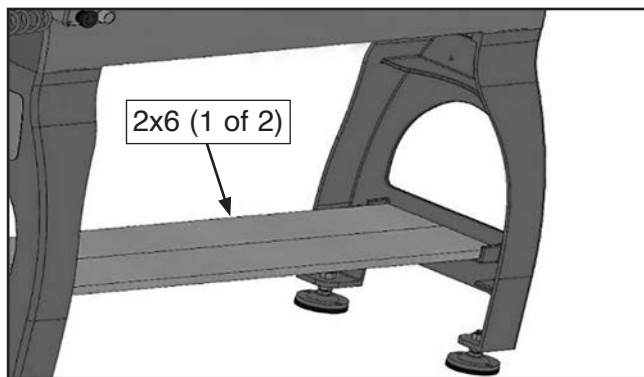

Figure 32. Boards positioned in brackets.
1. Set (2) 2x6 boards side by side in upper brackets of leg castings (see **Figure 32**).